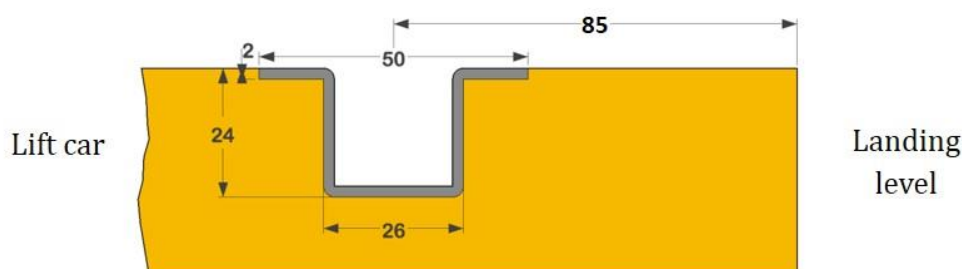

Figure 1 – Location of the guide rail in the car floor
2.2. Create room in the floor for the guide rail, as shown below, *figure 1*: